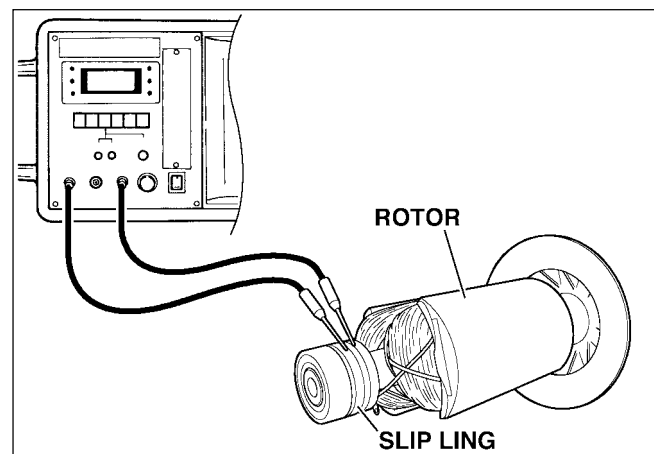

Fig. 11-3
- (3) Check the insulation resistance between stator core and each stator lead using a Cummins Onan generator tester in megger tester mode or a megger tester. (Fig. 11-3)